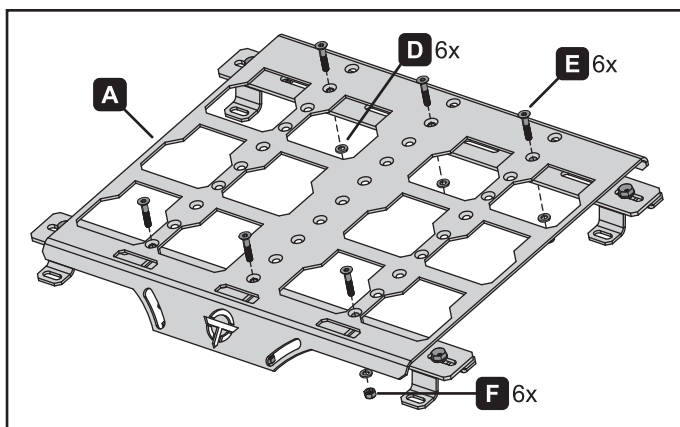

Figure 3.
7. Position the main plate (A) on top of the spacers. Adjust as needed to align the holes in the plate with the spacers (figure 3).
8. Insert socket head screws (E) into the aligned main plate holes. Carefully lower the plate with screws installed onto the spacers, ensuring all six fasteners line up (figure 3).
9. Loosely install the locking nuts (F) and washers (D). Do not fully tighten.